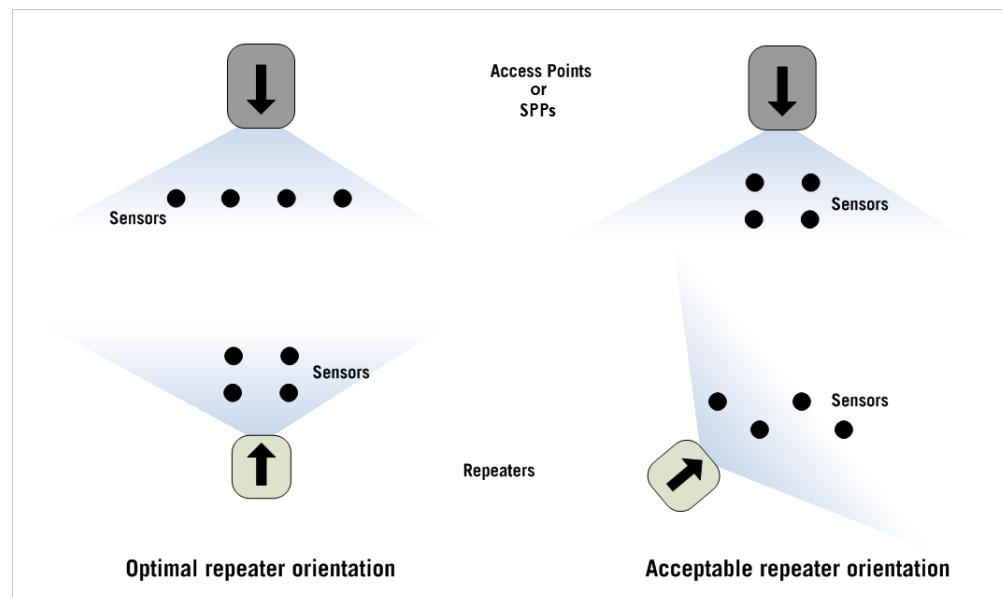

Figure 3.3. Repeater orientation
*Do not position the repeater between the access point or SPP and the sensors serviced by the repeater.* Doing so will likely result in poor sensor-to-repeater and repeater-to-access point/SPP communications. Strive to keep all sensors serviced by the repeater ***between the repeater and the access point or SPP*** as shown in Figure 3.3.
Figure 3.3 depicts repeater orientations relative to the access point or SPP. Acceptable RF communications between the access point or SPP and the repeater typically follow the estimates provided in the following table.